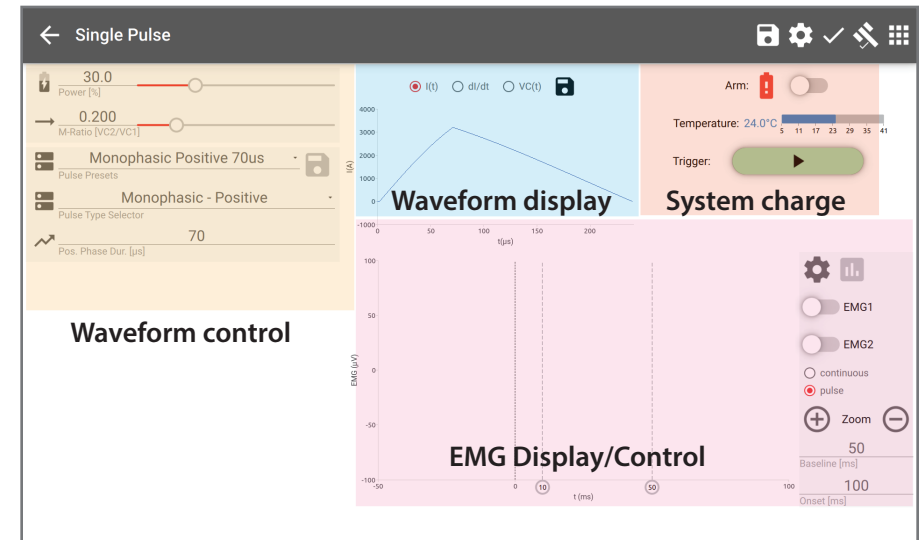

Fig. 2-17: Single pulse screen
- From the main menu, tap Single Pulse. Fig. 2-17 shows the single pulse window. The window can be divided into three zones.